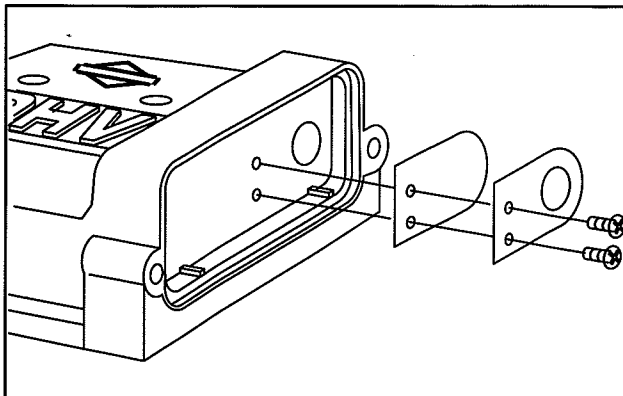

Fig. 18 – Install Breather
1. Assemble reed valve and reed stop to breather body, Fig. 18. Tighten screws securely.